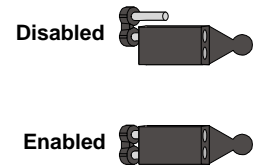

Figure 40: DX4010 P2/P3 Jumper Pin Settings
4. Plug the connector end of the cable onto the panel PCB. See *Figure 40* for details.
The diagnostic LEDs can be used for troubleshooting purposes. See *Figure 40* for jumper plug placements.